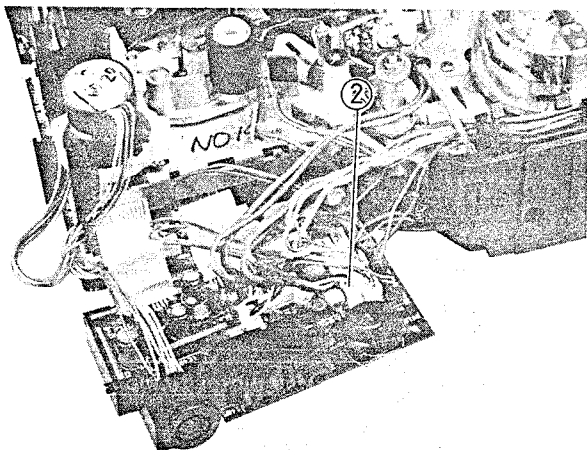

Fig. 2-88 Loading Motor Removal
Loading Motor Removal (Figs. 2-88, 2-89, 2-90)
2. Disconnect connector CN118. (See Fig. 2-88)